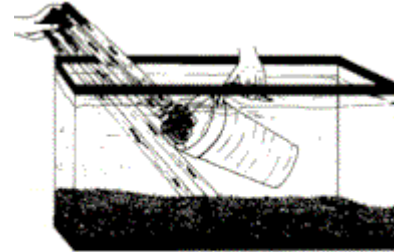

FIG. 15
2. Turn your XL Diatom Filter back on. Submerge a plastic container such as the one in Fig. 15, into the aquarium and put the intake and exhaust tubes into the container.